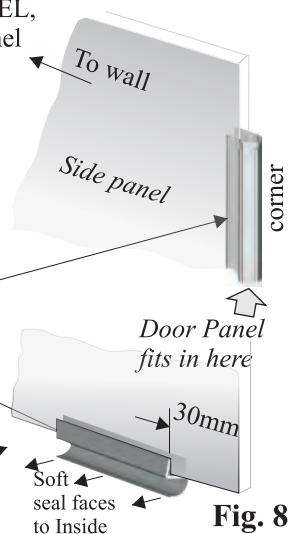

Fig. 8
6.1 On the large glass side panel there is a corner seal into which one of the door side panels will be inserted to form the corner. Using the detail in Fig. 8 determine the bottom of the large side panel and fit the bottom seal as shown.